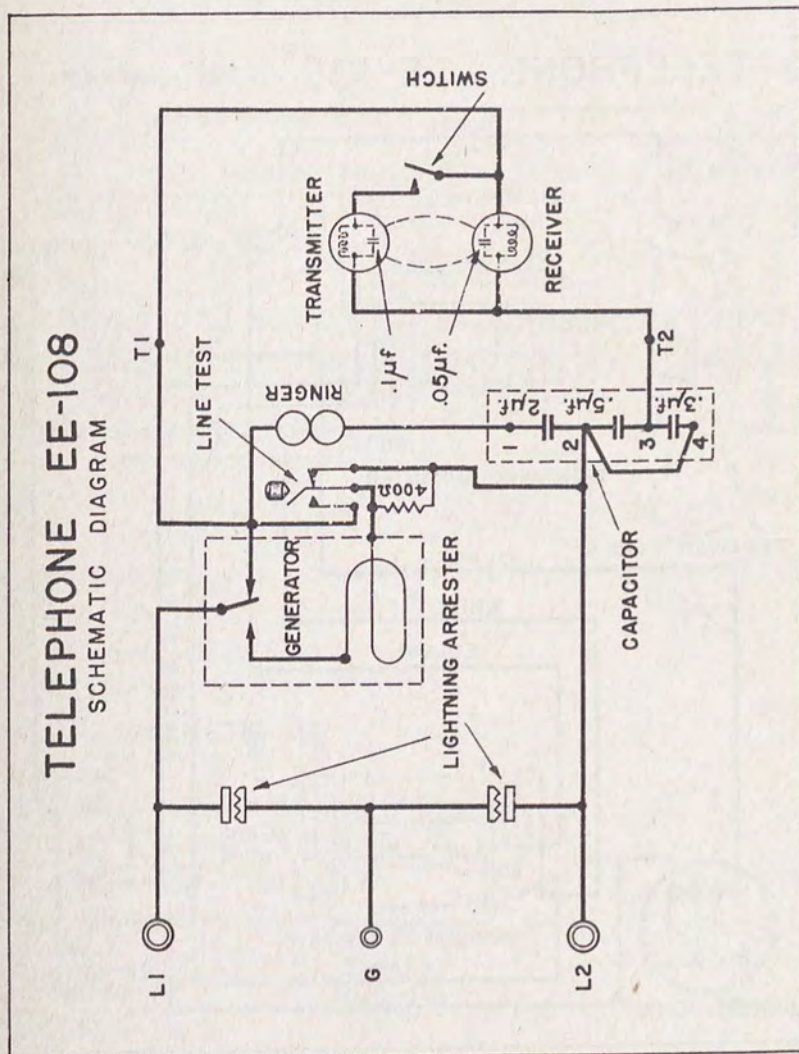

FIGURE 5. TELEPHONE EE-108, SCHEMATIC DIAGRAM.
8. **Repair and Replacement.**—In general, units which do not possess trained repair men and proper facilities for repair should exchange a defective telephone for a serviceable one and should not attempt repair or replacement beyond the mechanical repair of the case, the tightening of loose connections and repair of broken connections, and the replacement of screws, crank, cord, and handset. Some of the troubles likely to occur are listed below together with suggestions for their correction by units possessing such repair men and facilities (see Figs. 5 and 6 or similar diagrams pasted on the body).
10. Circuit Descriptions (see Figs. 5 and 6).
- e. *Lightning Arrester*.—The lightning arrester consists of a bakelite base, two sets of elements, holding brackets and cover. Each set of elements consists of a carbon block and a properly spaced counterelectrode. The elements are accessible after pulling off the metal cover. The lightning arrester elements are always connected across the line and to ground as shown on the diagram, Fig. 5. The elements present an infinite resistance to voltages up to 300 volts between each line and ground. For voltages exceeding 600 volts they present a very small resistance so that such surge voltages will be effectively kept from entering into the telephone. For changing lightning arrester elements see Section II, Par. 4b.